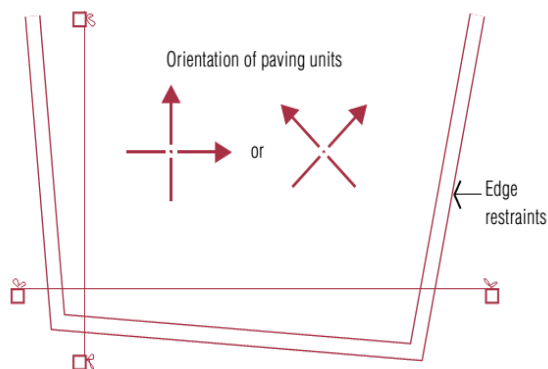

Figure 4: Setting out with stringlines
- To keep pavers straight as they're laid, set out two stringlines from a corner of the pavement, which cross at 90 degrees, as shown in Figure 4.